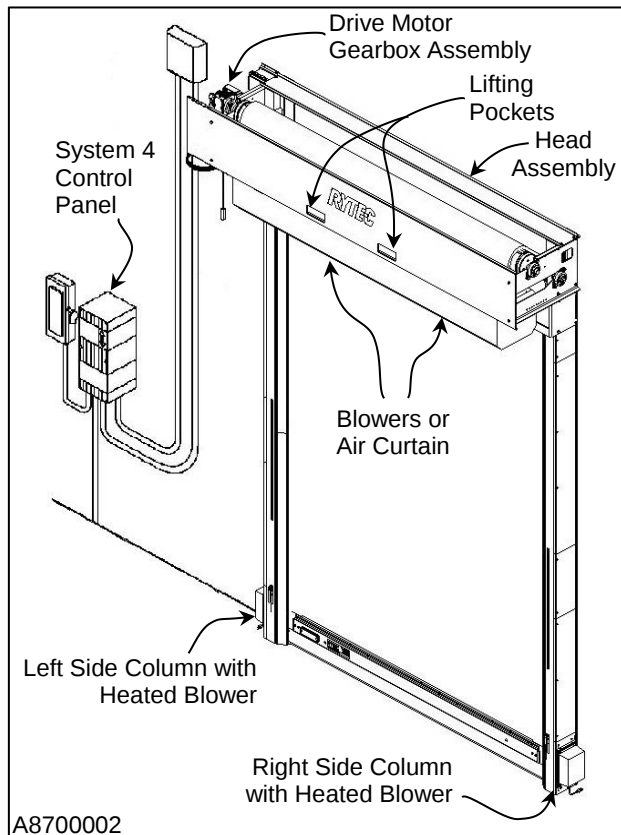

Figure 57
3. To ensure the correct parts are shipped, please include the serial number of your door with the order. The serial number is located on the front of both the left and right side column covers @ about eye level, on the drive motor gearbox in the head assembly, or on the door of the System 4 Control Panel. All these serial numbers should match. (See Figure 57)